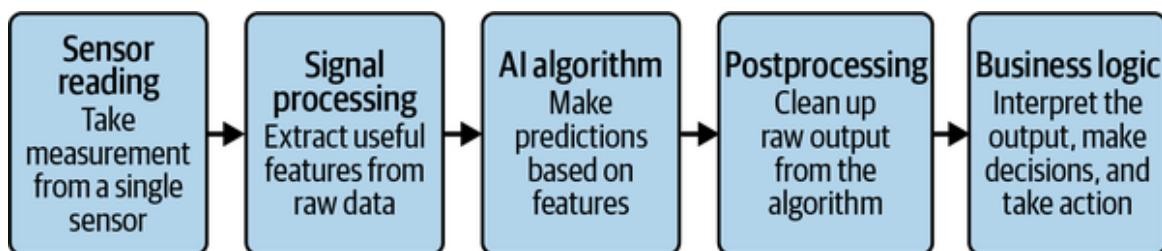

Figure 8-2. The basic edge AI application flow
In the most basic applications, there’s a single pipeline of software, all running on one device, that takes sensor data, processes it, and makes decisions. This is shown in Figure 8-2.
2. Begin with the simplest design pattern that you can: this will usually be Figure 8-2, especially if you are working on a single device.